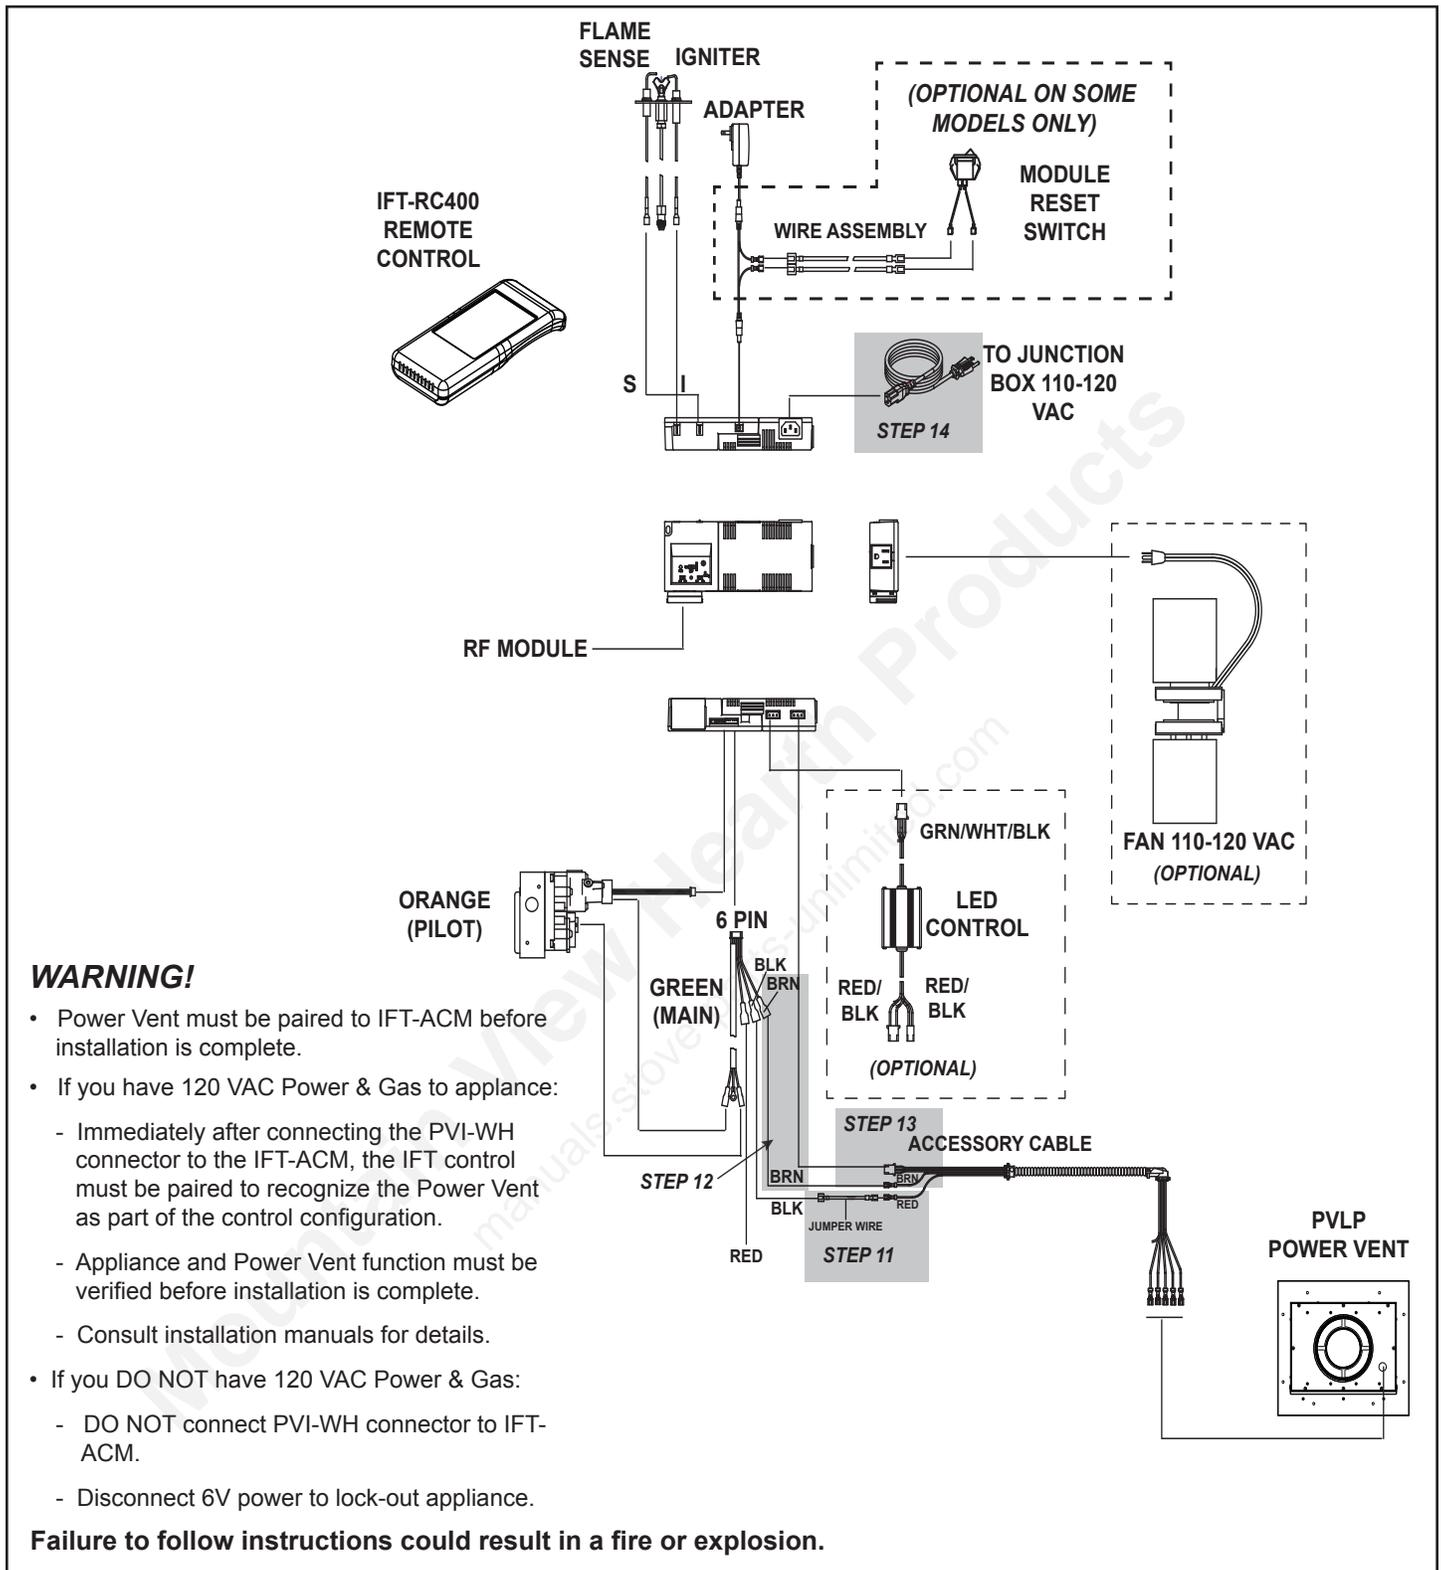

Figure 4.10. IFT-RC400 Wiring Diagram with Power Vent
10. Refer to wiring diagram with Power Vent to make remaining connections. See Figure 4.10.
11. Attach jumper wire included in manual bag of Power Vent between black wire on 6 pin harness and red wire on accessory cable. See Figure 4.10.
12. Attach brown wire from 6 pin harness to brown wire on accessory cable. See Figure 4.10.
13. Plug (3) connector plug on accessory cable into Power Vent port on IFT-ACM. See Figure 4.10.